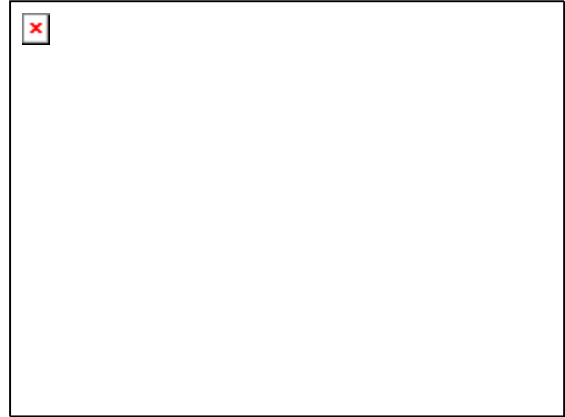

Figure 25, Exchange the step motor control board
2. Unplug all cables from the step motor control board. Please refer to **Figure 25**.
4. Exchange the defective step motor control board against a new one. Please refer to **Figure 25**.